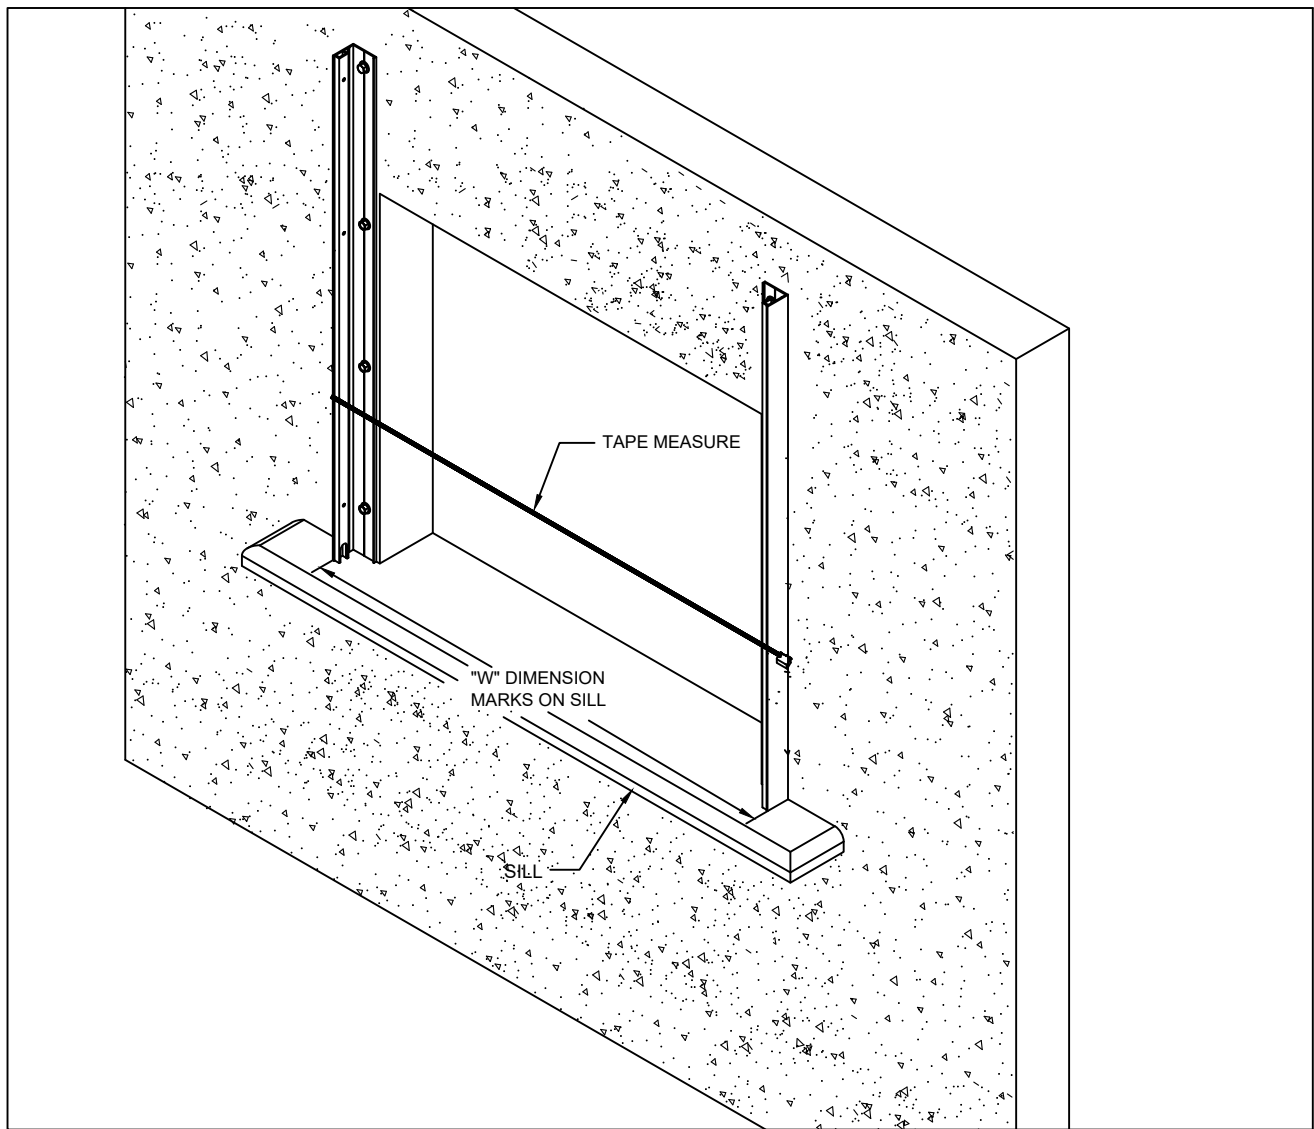

FIGURE 7
- c. Install second wall angle by placing it at the "W" dimension marked on the sill at the second jamb as shown in Figure 7. Shim if necessary.
- d. Use a tape measure while attaching the second wall angle to maintain a consistent "W" dimension all the way to the top as shown in Figure 7.